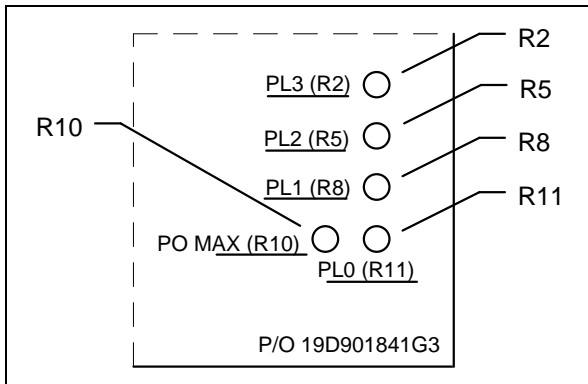

Figure 19 - Power Amplifier Adjustment Locations
2. Connect a RF Directional Wattmeter (item 18) between the PA output and the TX Combiner. Put the Wattmeter into FORWARD mode. Attach a 150 watt RF load (item 21) onto the output of the TX Combiner.
6. Using a non-inductive tuning tool, adjust R11 on the PA Assembly for 100 \pm 5 watts output power (see Figure 19). Record the final output power.